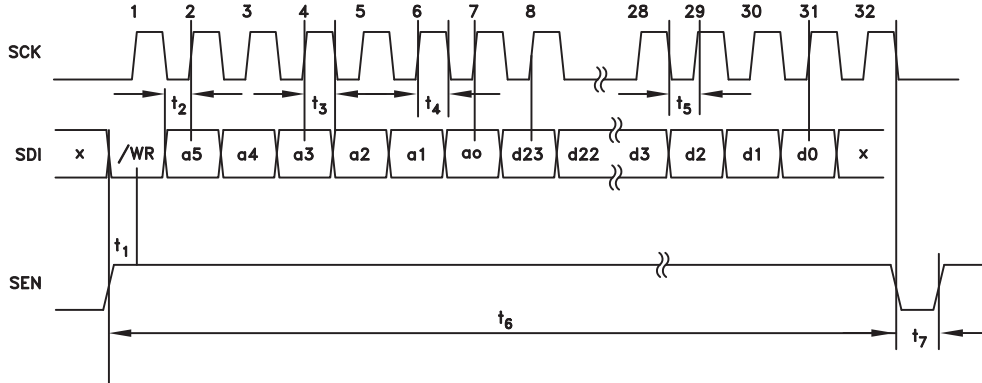

Figure 15. Serial Port Timing Diagram - Write Serial Port WRITE Operation
A typical WRITE cycle is shown in Figure 15.
- a. The Master (host) asserts both SEN (Serial Port Enable) and SDI to indicate a READ cycle, followed by a rising edge SCK. Note: The Lock Detect function is multiplexed onto the LD_SDO pin. It is suggested that lock detect (LD) only be considered valid when SEN is low. In fact LD will not toggle until the first active data bit toggles on LD_SDO, and will be restored immediately after the trailing edge of the LSB of serial data out as shown in Figure 15.
- b. The slave (synthesizer) reads SDI on the 1st rising edge of SCK after SEN. SDI high initiates the READ cycle (RD).